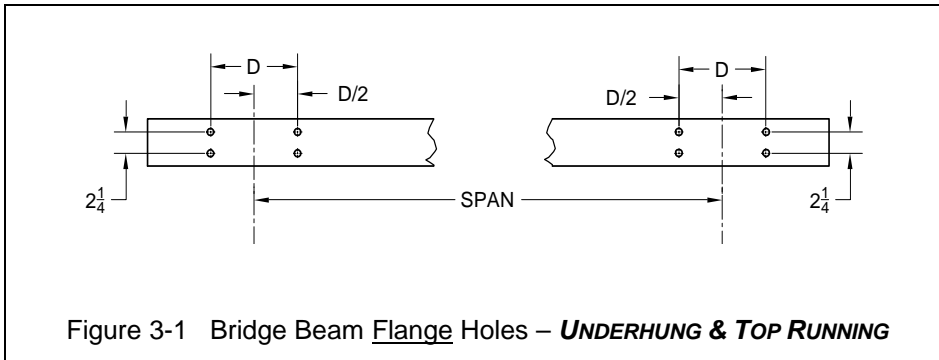

Figure 3-1 Bridge Beam Flange Holes – **UNDERHUNG & TOP RUNNING**
- **Underhung** – Drill eight 9/16" diameter holes through the top flange as shown in Figure 3-1. Drill four 9/16" diameter holes through the web as shown in Figure 3-2.
- **Top Running** – Drill eight 9/16" diameter holes through the bottom flange as shown in Figure 3-1. Drill four 9/16" diameter holes through the web as shown in Figure 3-3.